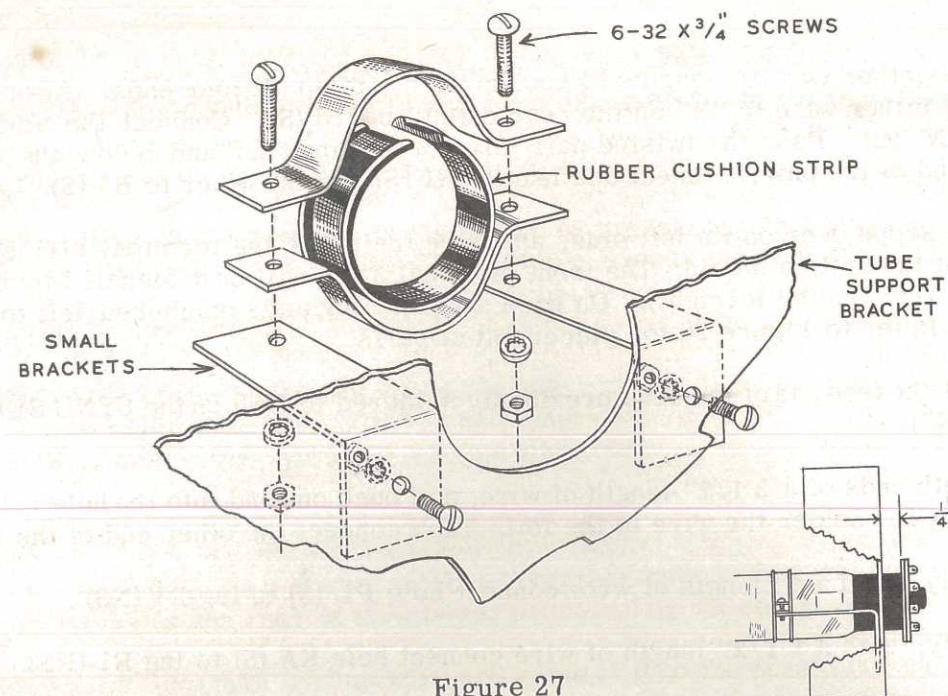

Figure 27
- (✓) Mount the two small brackets on the front side of the tube support bracket as shown in Figure 27, using 6-32 hardware.
- (✓) Assemble the two halves of the tube clamp, following Figure 27 closely. Use the two 6-32 x 3/4" screws but do not tighten them. Insert the rubber cushion strip, being sure that the clamps are seated in the groove. Position of the gap in the strip is not critical.